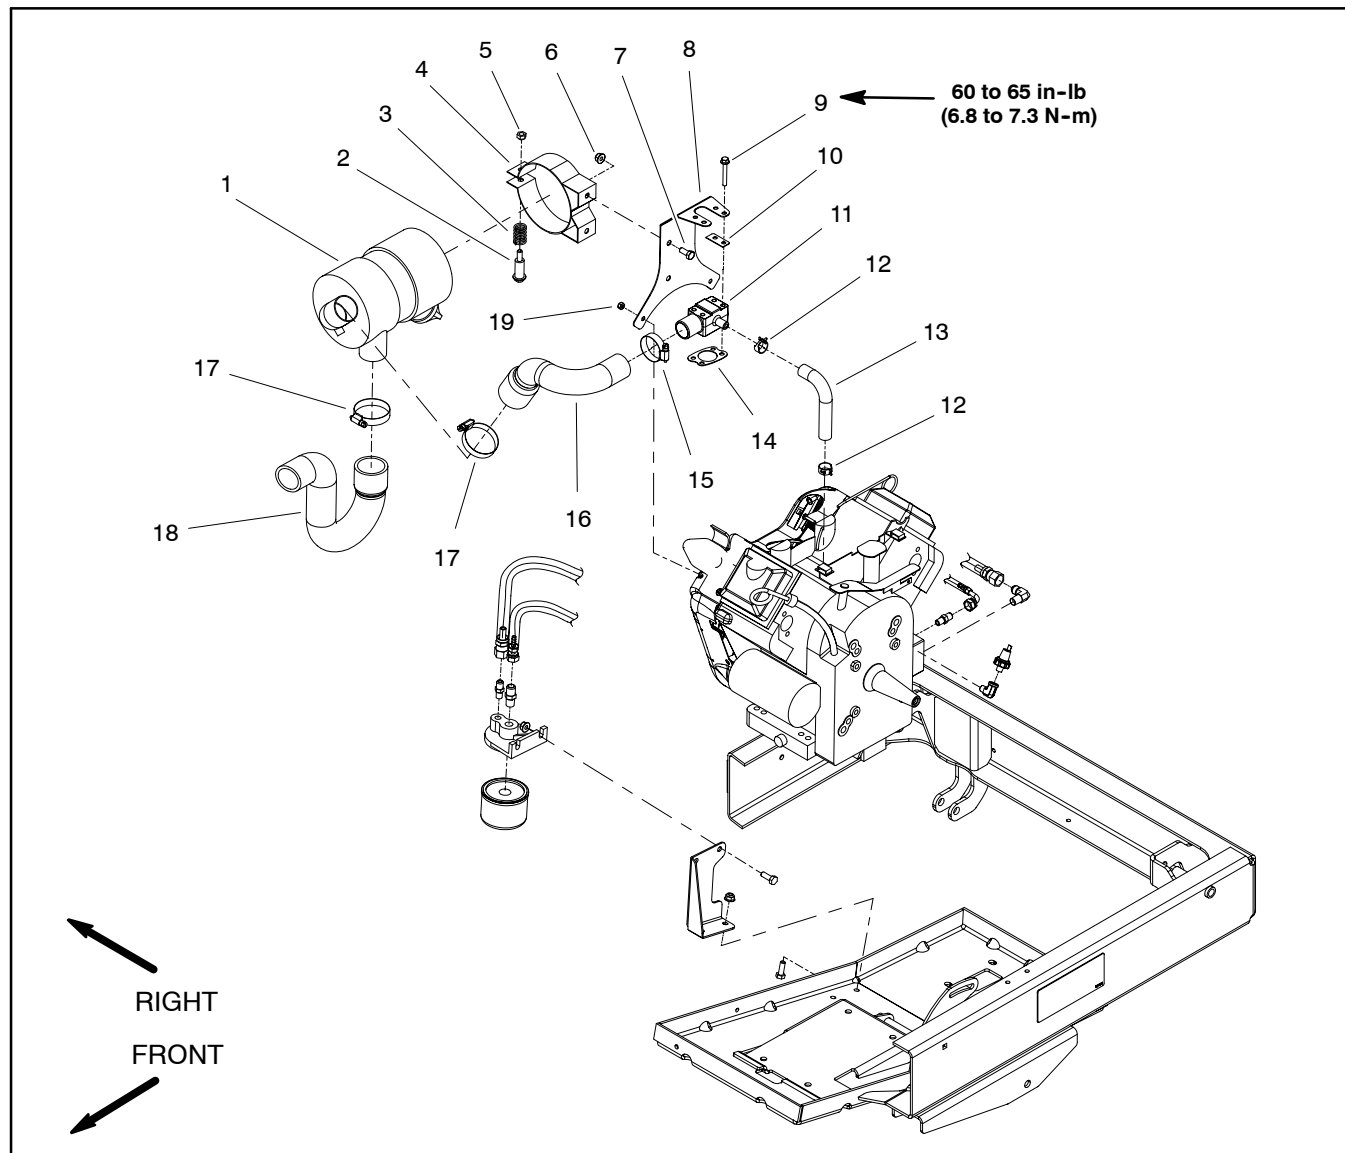

Figure 5
Removal (Fig. 5)
4. Remove air cleaner components as needed using Figure 5 as a guide. Discard any removed gaskets and clean gasket mating surfaces.
Installation (Fig. 5)
1. Assemble all removed air cleaner components using Figure 5 as a guide.
- A. Install new gaskets (items 10 and 14) if they were removed.
- B. If flange head screws (item 9) were loosened or removed, torque screws from **60 to 65 in-lb (6.8 to 7.3 N-m)**.